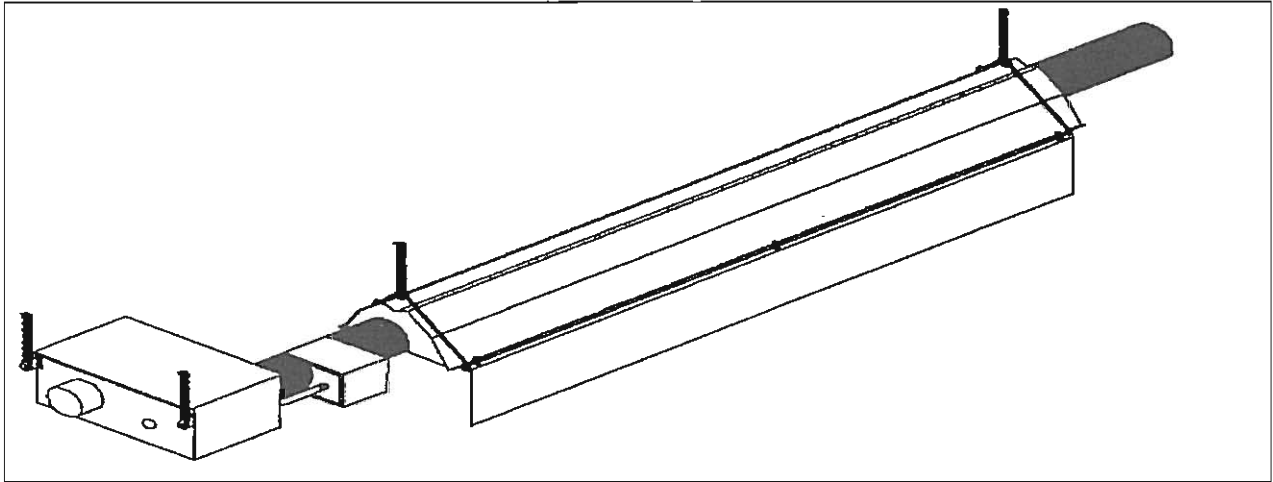

Figure 2-13
2. Install the side shield by hooking the edge holes onto the RCS's (Figure 2-13).